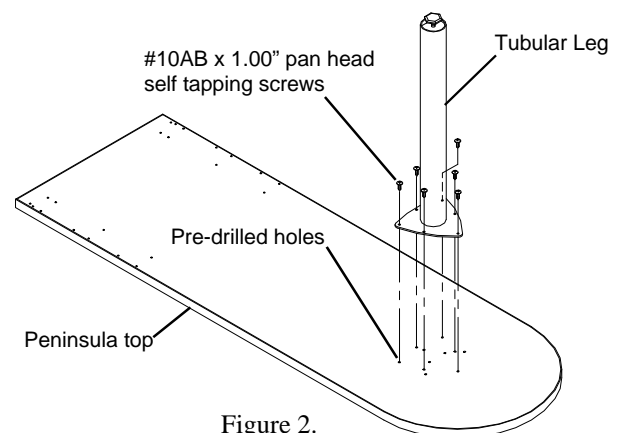

Figure 2.
3. Attach the **Tubular Leg** to the worksurface. Align the holes in the mounting plate with the appropriate holes in the worksurface and secure using the six #10AB x 1.00" Pan head self tapping screws provided. See **Figure 2**.